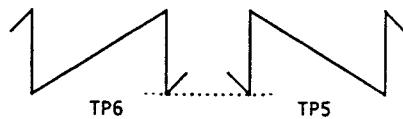

Fig. 4-21
- Adjust VR13 so that the lower level of sawtooth waveform at TP5 and TP6 becomes equal. (Fig. 4-21)